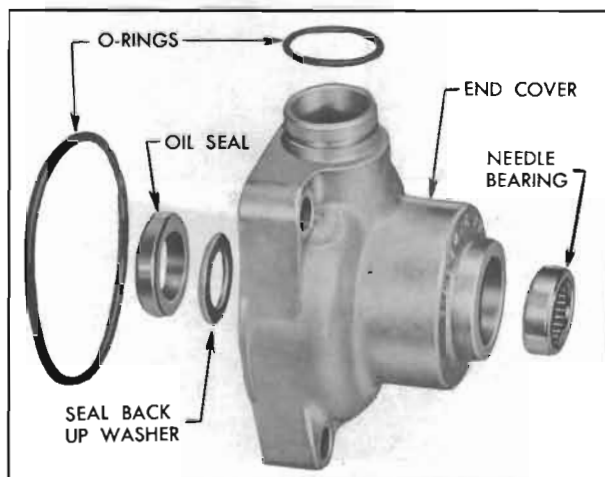

Figure 8-36—End Cover Bearing and Seal Assembly
13. Install new seal back-up washer in end cover with chamfered side first. See Figure 8-36. Press in new end cover oil seal using Seal Installer J 5188 with lips toward tool. Lubricate seal with dynaflow oil and install new O-ring seals on end cover. Lubricate needle bearing with chassis lubricant.